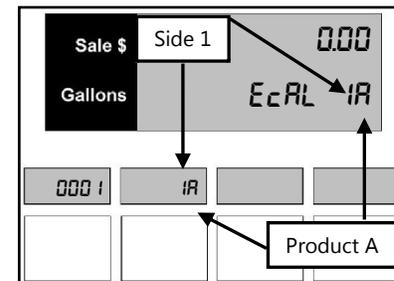

Figure 99.3 – E-Cal Values
3. After you press **Enter** then you will be able to view the E-Cal values for each product as shown in *Figure 99.3*.